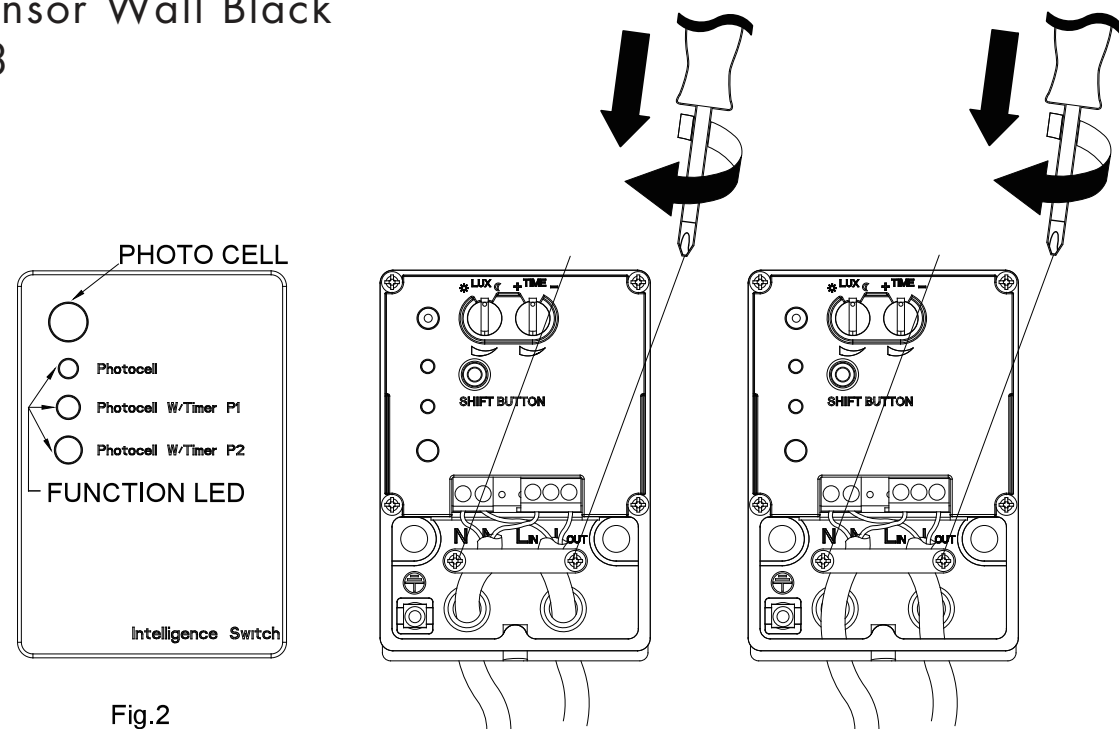

Fig.2
Installation the unit, please referring to the Fig.1, Fig.2
5. Unscrew the Junction Cover Screws then remove it. Connecting the Power Cable (e.g. H05RR-F 2G 1mm²) to the Terminal Block, see the relative symbol in Fig.2. Ensure the cable must pass through the Cable Gasket. Pass through the Cable to the hole under the main body or back of the main body.